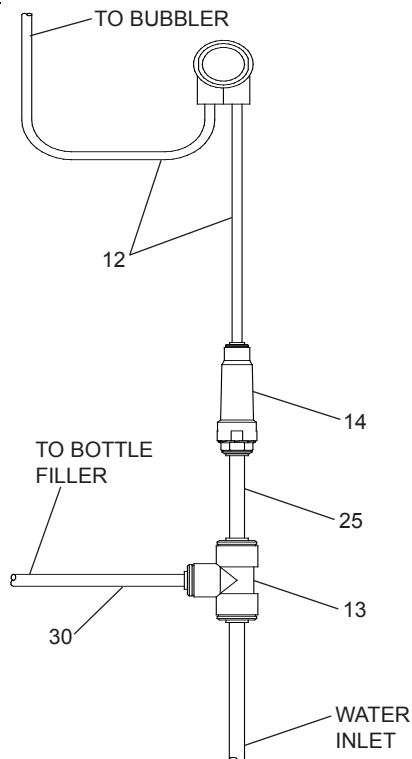

Figure 2 - HTHB-OVLEBP-I Tube Routing
3. **(For HTHB-OVLEBP-I)** Install 3/8" tee, poly tubing and strainer per (Fig. 2).